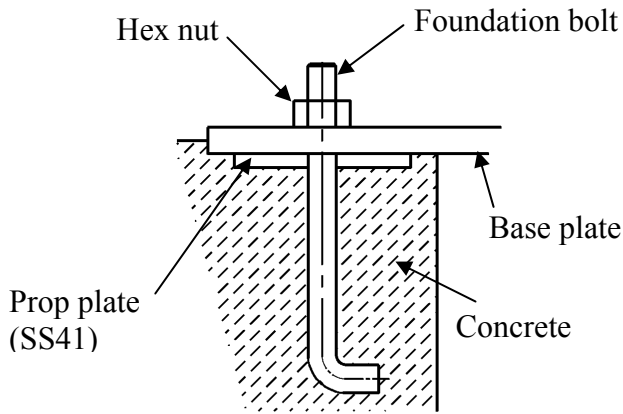
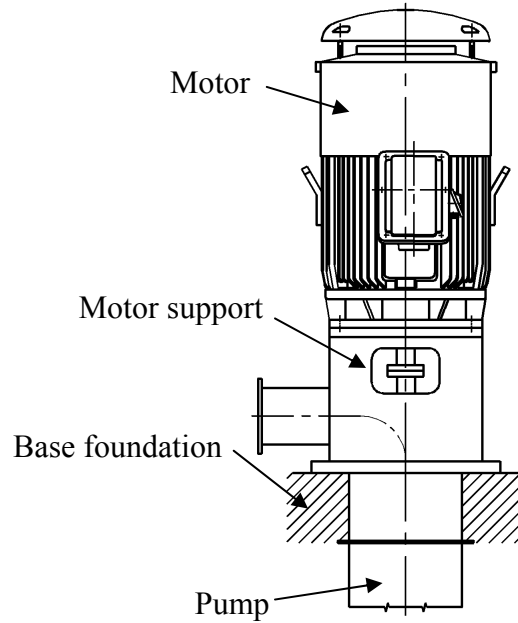

Fig. 9
Fig. 10
- A massive concrete foundation is preferred in order to minimize vibration. Rigidity and stability are enhanced by prop plate and foundation bolt. As shown in Fig.9 and Fig.10.